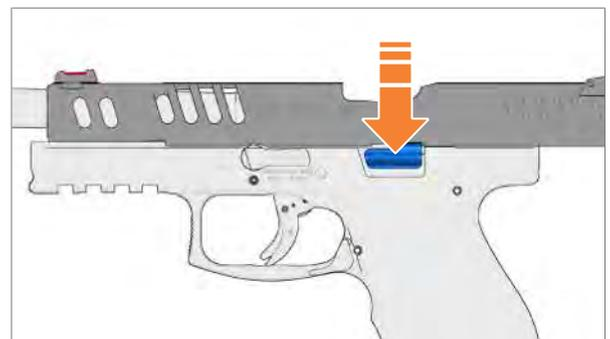

Fig. 20: Press slide release downwards
- › Press slide release downwards (*Fig. 20*). The slide snaps forwards.